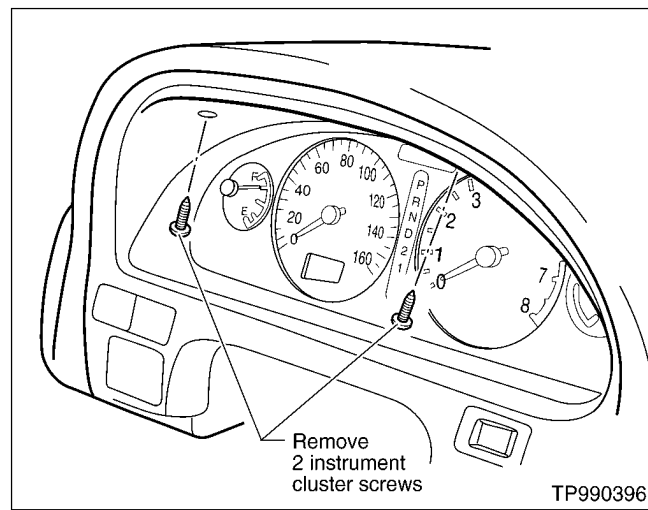

Figure 3
- A. Remove two screws that hold the face of the instrument cluster in place (see Figure 3 for screw locations).